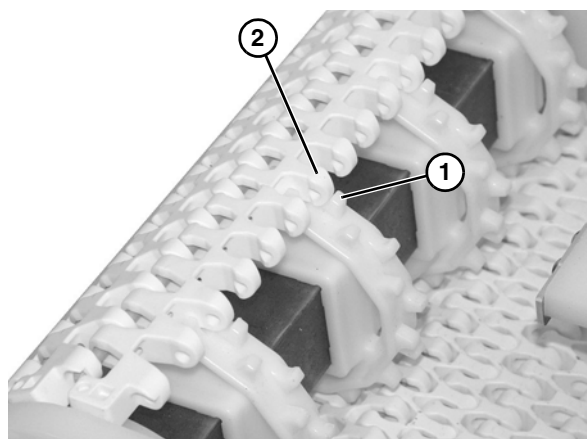

Figure 18
6. Wrap the belt around the drive end of the conveyor, making sure the sprocket teeth have engaged the belt, with concave teeth (**Figure 18, item 1**) mating with rounded section (**Figure 18, item 2**) of belt.